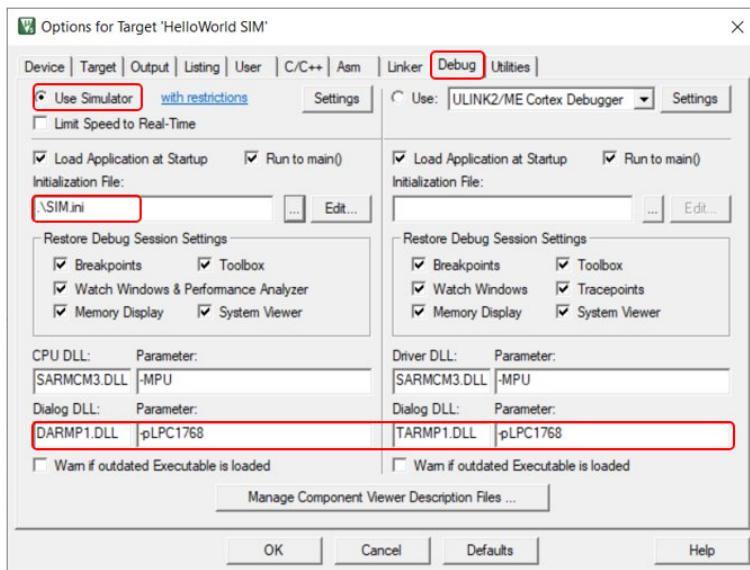

Figure 8.18: Keil IDE: Target Options Debug Tab Configuration
1. Open up the target option window and select “Use Simulator” in the Debug tab and set the Dialog DLL and Parameters as shown Figure 8.18. The debug script `SIM.ini` provided in the starter code (see Listing B.1 in Appendix B) is needed to map the second bank of RAM area read and write accessible inside the simulator.